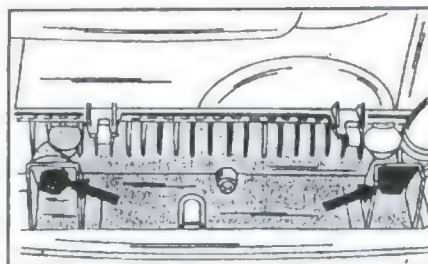

Fig. 1.85 - The radiator is secured at the positions shown by locking spring clips.
- At the lower end of the radiator remove the locking clips on both sides at the radiator, at the positions shown in Fig. 1.85.